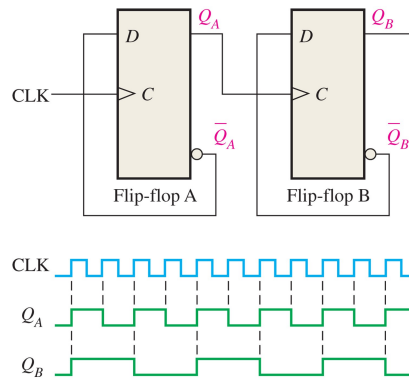

Figure 3: Two D flip-flops forming a frequency divider.
- Consider Fig. 3, in which a divide-by-four frequency divider is depicted with D flip-flops and a CLK signal. (a) Elaborate on this circuit to create a circuit that can divide the clock frequency by 2, 4, or 8. Show the flip-flops explicitly. (b) Develop a symbol for the 2-4-8-16 divider, with CLK signal input and four outputs (one each for $f/2$, $f/4$, $f/8$, and $f/8$, where f is the clock frequency). (c) Connect the symbol for the new part to a symbolic 4-to-1 multiplexer with the appropriate number of data select lines to form a clock division system. (d) Show with a timing diagram the output if the user changes the data select lines at least once. For parts (b)-(d), it is only necessary to show symbols rather than individual flip-flops.